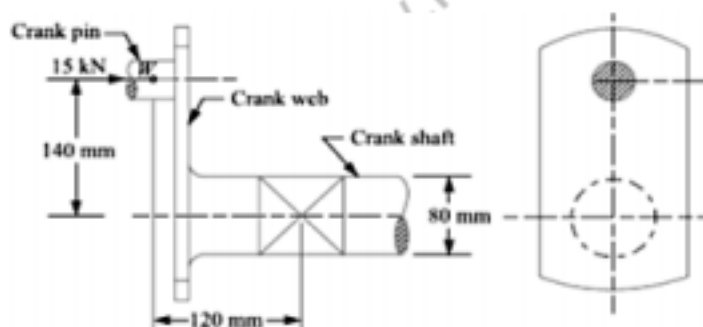

Figure 1
- a. An overhang crank with pin and shaft is shown in Fig. 1, tangential load of 15 kN acts on the crank pin. Determine the maximum principal stress and the maximum shear stress at the center of the crankshaft bearing.